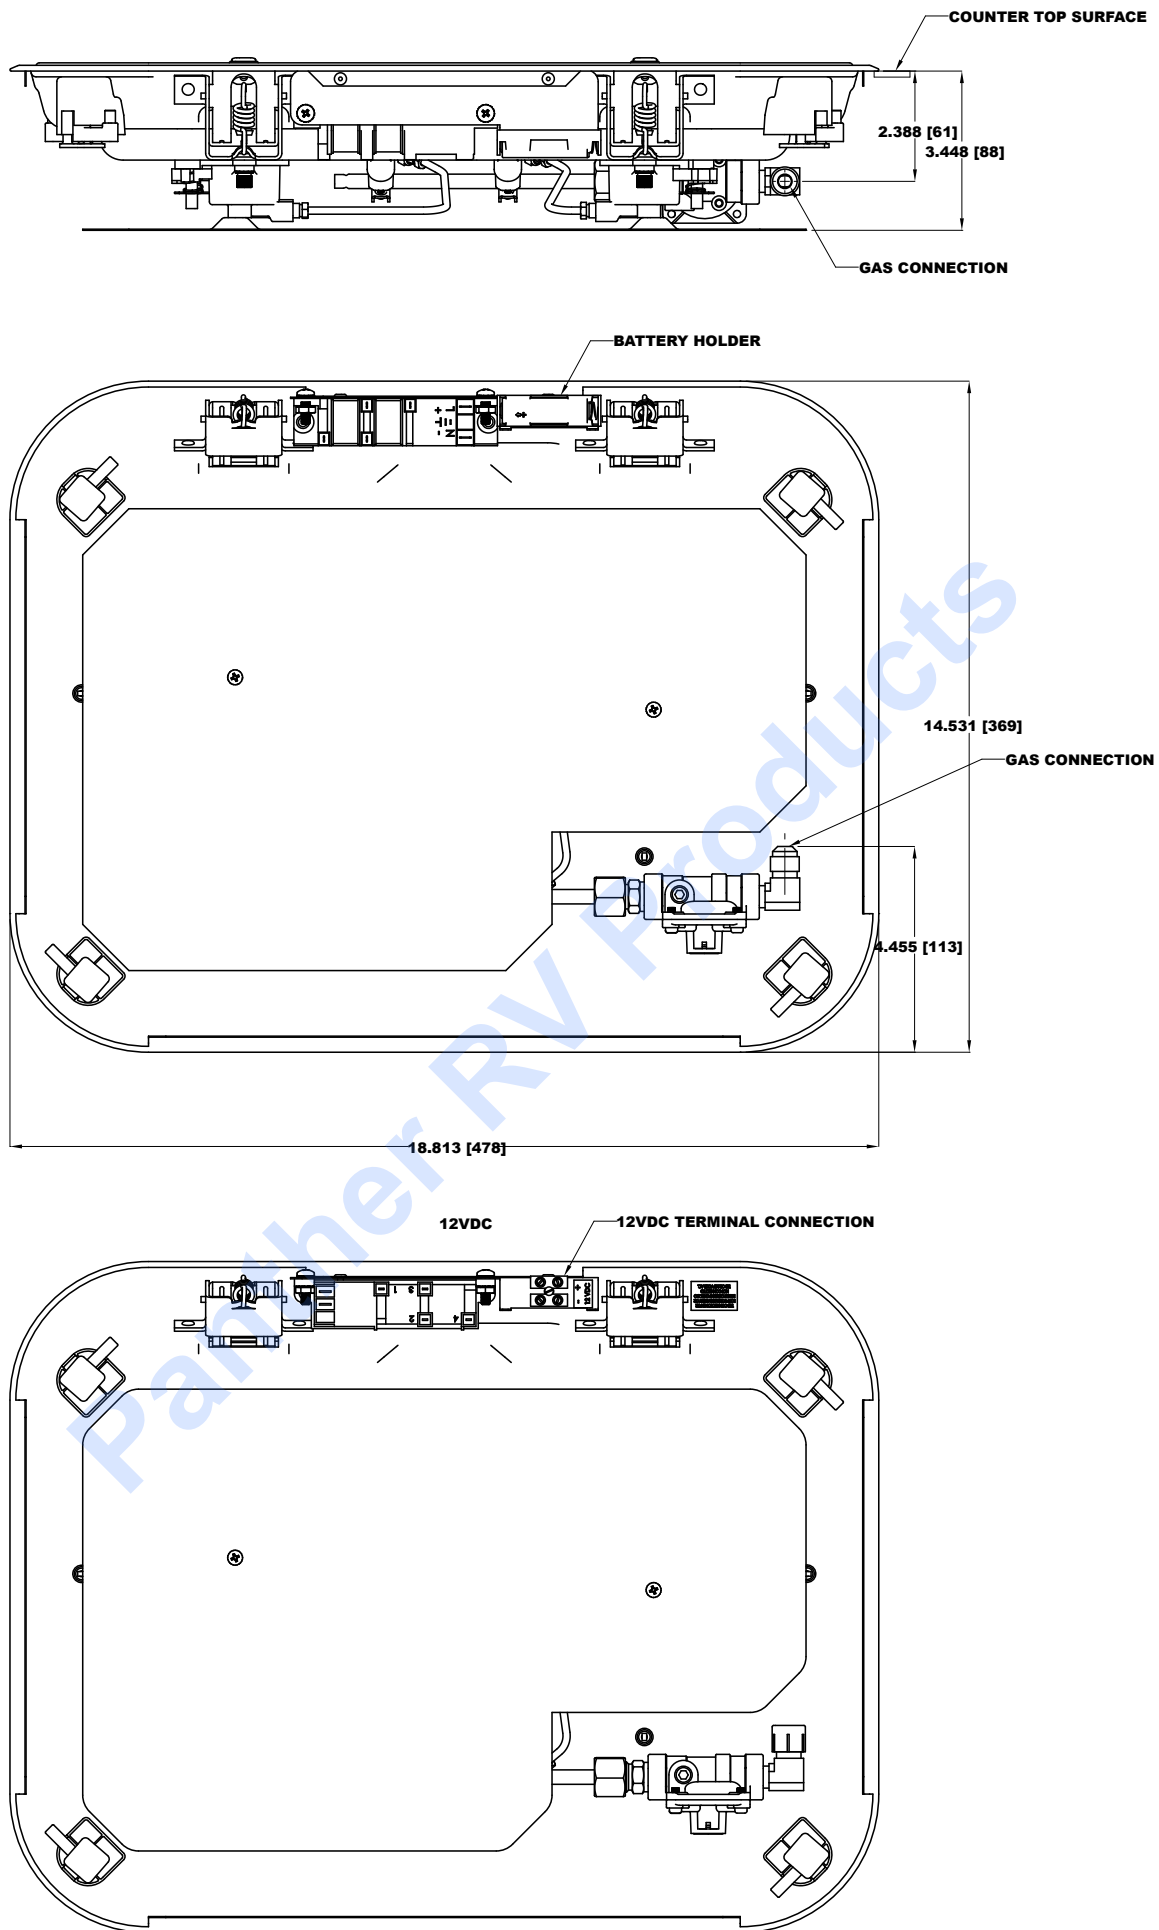

Figure 1B
2. Remove existing battery from battery holder (See Figure 1B).